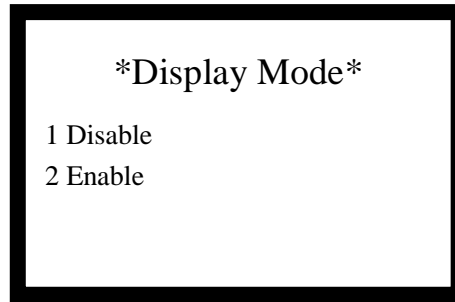

Fig. 6-43
- ✧ You can set the panel to display network message or not by entering number 2, as shown in Fig. 6-43.